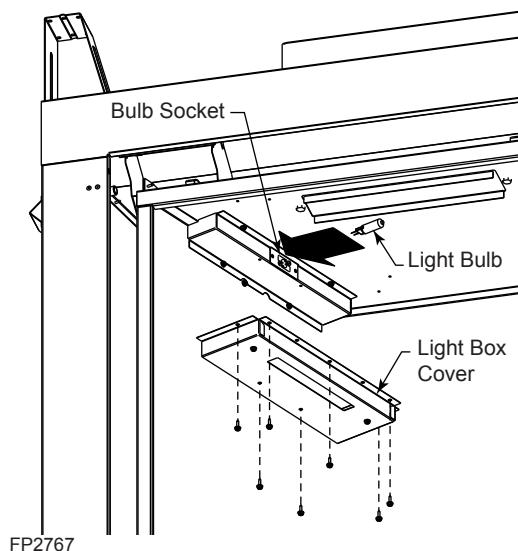

Figure 59 -
2. Remove the six (6) screws securing each light box and remove from unit. *Figure 59*
3. The light bulbs are included in the log packaging. install the light bulbs into bulb sockets as shown in *Figure 59*.